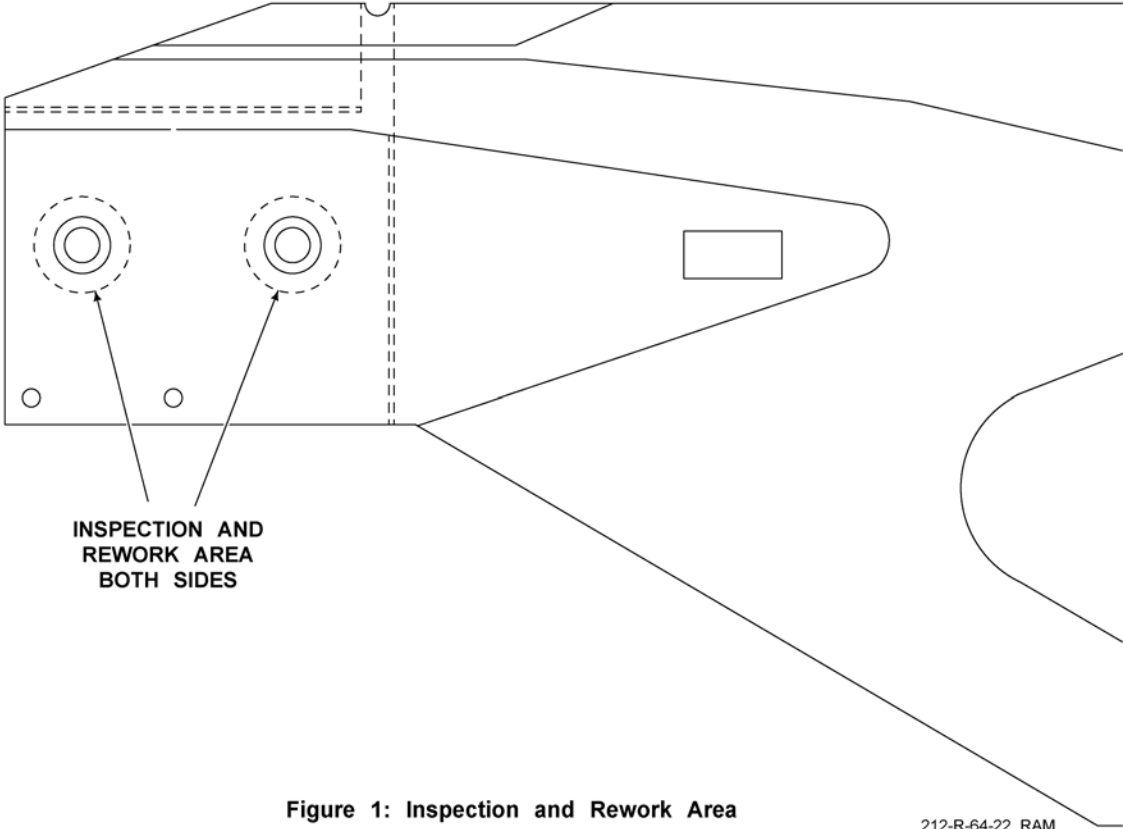

Figure 1: Inspection and Rework Area
2. Remove paint and adhesive filler in blade bolt washer contact area per Figure 1 using plastic media blasting per the BHT-ALL-SPM.